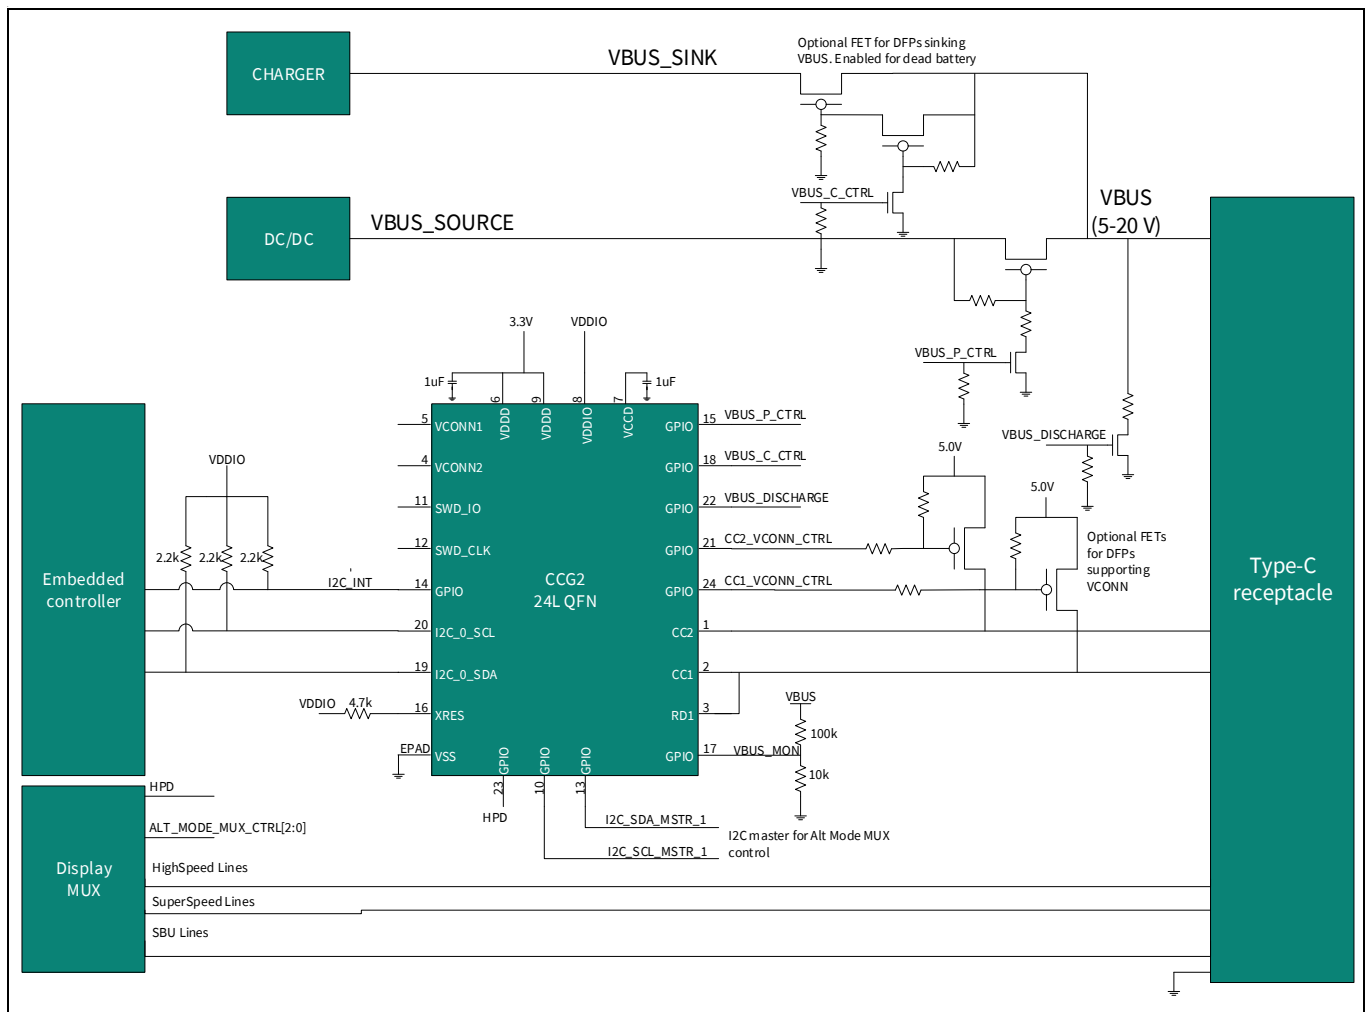

**Figure 13** Upstream facing port (UFP) application – Tablet with a Type-C port
**Figure 13** shows a CCG2 device being used in a UFP application (tablet with a Type-C port) only as a power consumer.